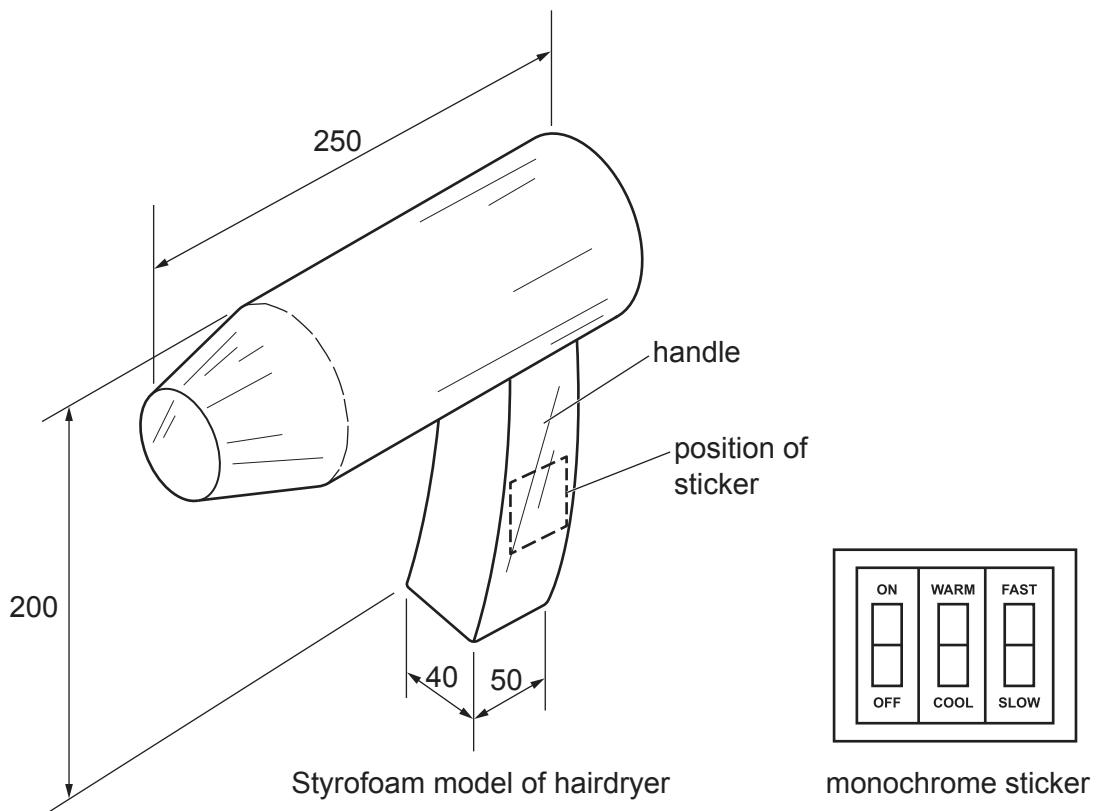

Fig. 2.1
- 2 Fig. 2.1 gives details of a Styrofoam model of a hairdryer which is to be made in a school workshop.